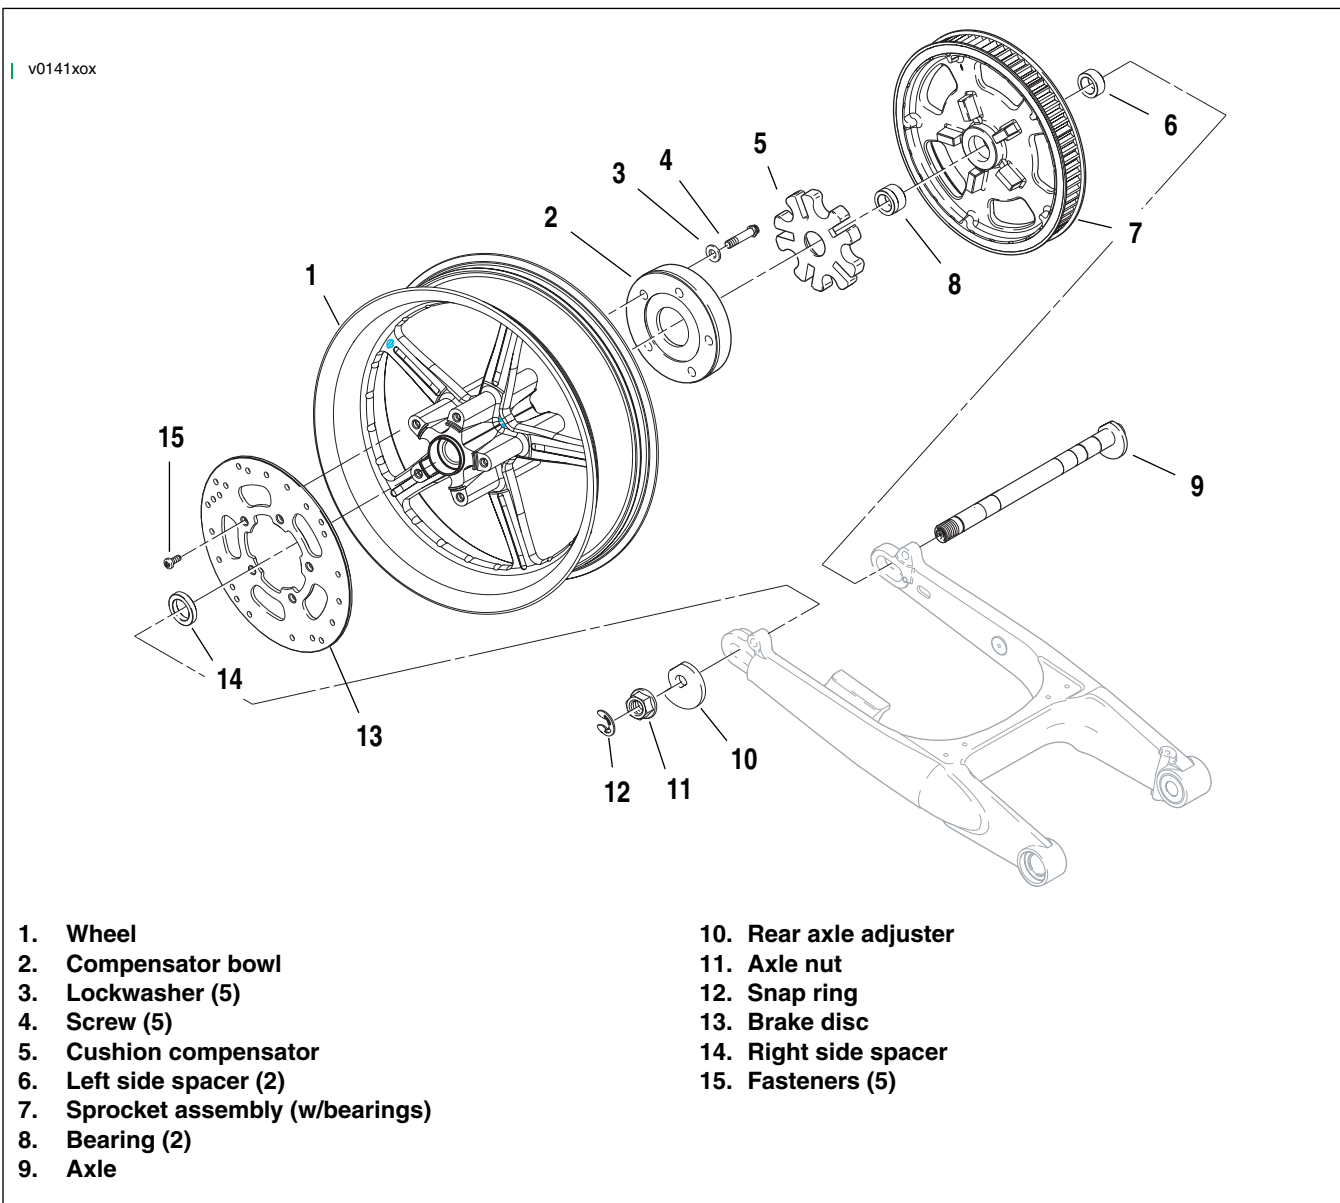

Figure 2-13. Rear Wheel Components
4. See Figure 2-13. If necessary, remove screws (4) and helical spring lockwashers (3) holding compensator bowl (2) to disc wheel (1). Remove compensator bowl (2).
5. If necessary, remove fasteners (15) that hold brake disc (16) to disc wheel (1) and remove brake disc (16).